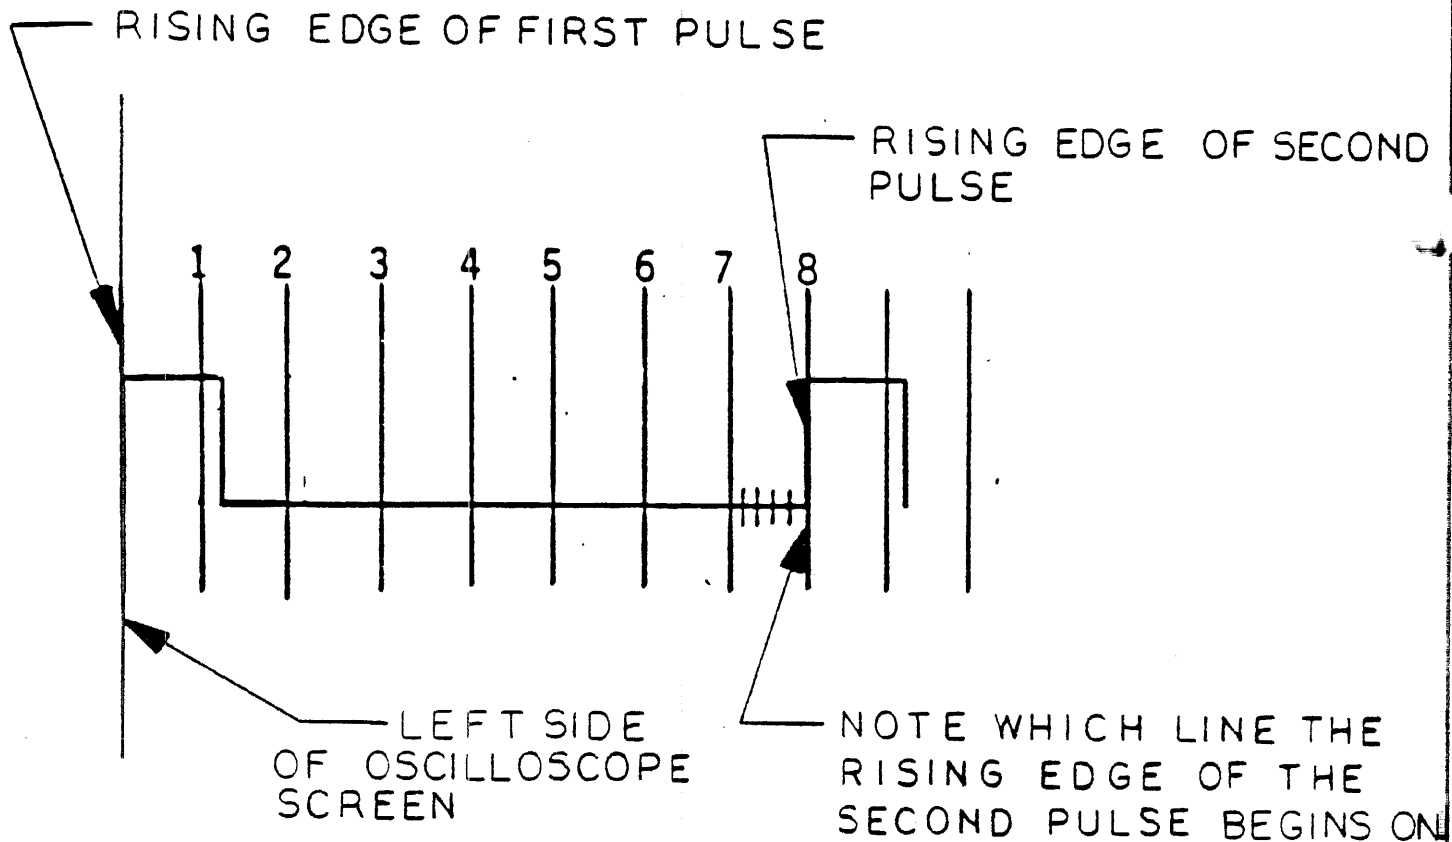

FIGURE 3. THE RISING EDGE OF THE FIRST PULSE ALIGNED WITH THE LEFT SIDE OF THE OSCILLOSCOPE SCREEN.
- 7.3.5 Turn the control on the oscilloscope labeled "time delay" and line up the rising edge of the first pulse with the left edge of the scope. (See Fig. 3.)